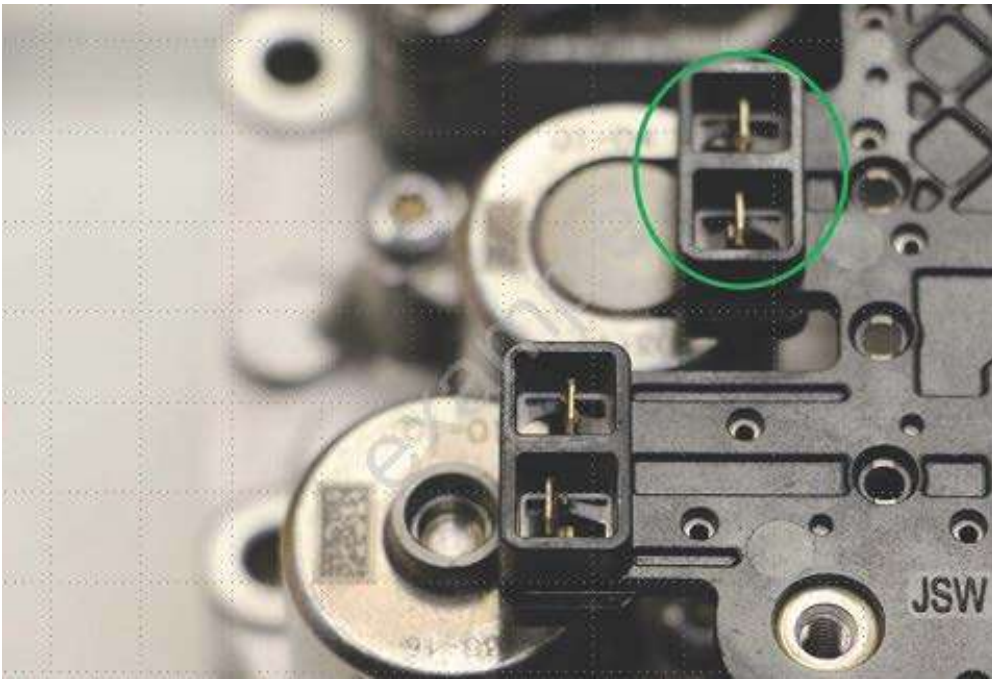

Figure 4. Contacts OK (green).
- Fit new contact plate (see *Parts Information* for part number) on the mechatronic unit and carefully engage it audibly on the contacts (see figures 4 and 5).
- It is essential to ensure that all contacts are inserted in the intended/correct connector and do not get bent when fitting the contact plate to the mechatronic unit (refer to figures 4 and 5).